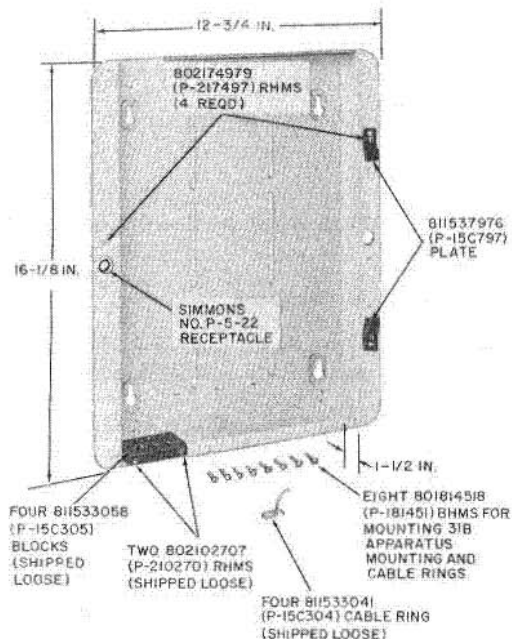
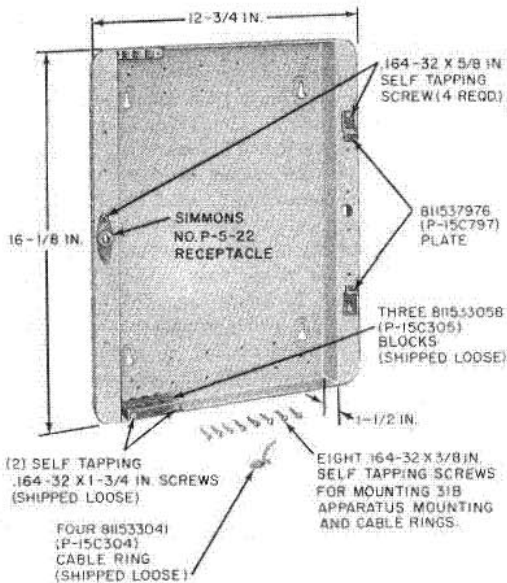

Fig. 22—177A Aluminum Backboard Assembly (MD)
Fig. 23—177A Fiberglass Backboard Assembly
5.03 The 177A die-cast aluminum (Fig. 22) backboard has been replaced by a fiberglass (Fig. 23) backboard. The fiberglass type requires self-tapping screws while the aluminum type requires machine screws for attachment. The 177A backboard is designed for use with the 31B apparatus mounting. A shallow dish-shaped recess provides space for mounting 66-type connecting block. The 811537976 (P-15C797) plates, drilled and tapped to permit right or left hinging of 31B apparatus mounting, may be mounted on either side to hold the gate in an open position. To adapt the 177A backboard for use with the 31A (MD) apparatus mounting, use the D-179862 kit assembly. It consists of a 177A backboard, two metal details, and two 66B1-25 connecting blocks.